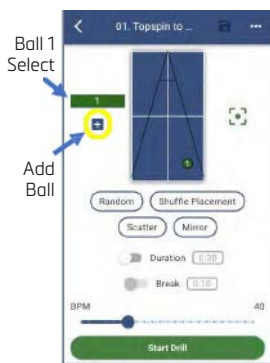

Figure 3-39
2. Press the Add Ball button "+" (Figure 3-39) below the Ball 1 Selector, to add an additional ball to this Drill. You will now see two balls in the Drill. (Figure 3-40) and you will be in Drill Edit mode.